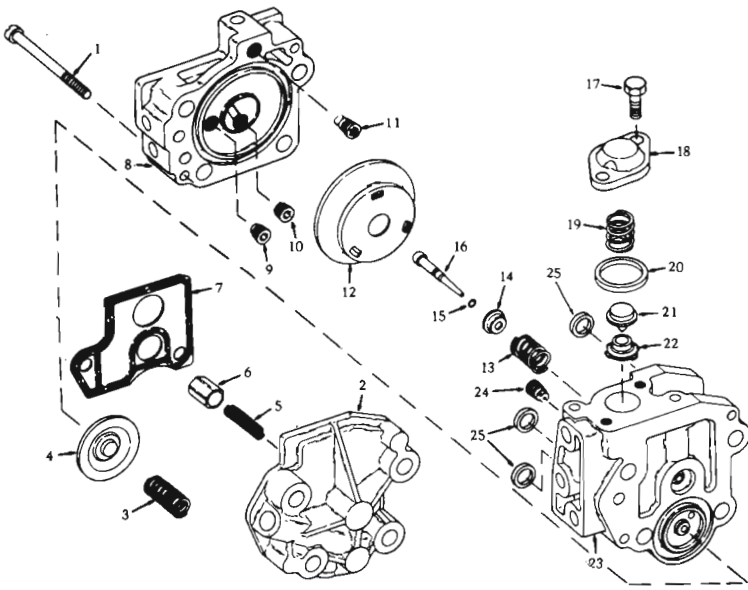

Figure 25
9.5 "ABDW" ACCELERATED APPLICATION VALVE PARTS (See Figure 25)